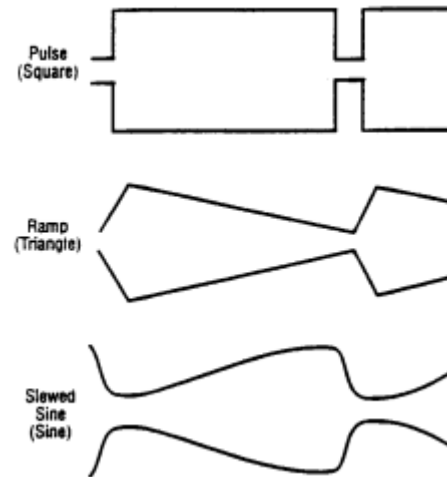

Figure 4. Effects of Symmetry Variation.
The **DUTY CYCLE** control can be used to alter the symmetry of the output waveform, to produce waveshapes such as those shown in Fig. 4. For a square wave, symmetry variation amounts to changing the duty cycle (ratio of "high" to "low" time), effectively converting the instrument into a pulse generator. For a triangle wave, the result is a ramp, and with a sine wave, a distorted waveshape called a slewed sine is produced. The Model 4040 provides for symmetry variation from 15% to 85%.
2. Engage the **DUTY CYCLE** switch (2) and adjust the **DUTY CYCLE** control (7) for the desired waveshape. Clockwise rotation from center results in an increase in square wave duty cycle, and changes the sine and triangle waves as shown in the top waveform of each pair of Fig. 4. Counter-clockwise rotation results in the bottom waveform in each pair.